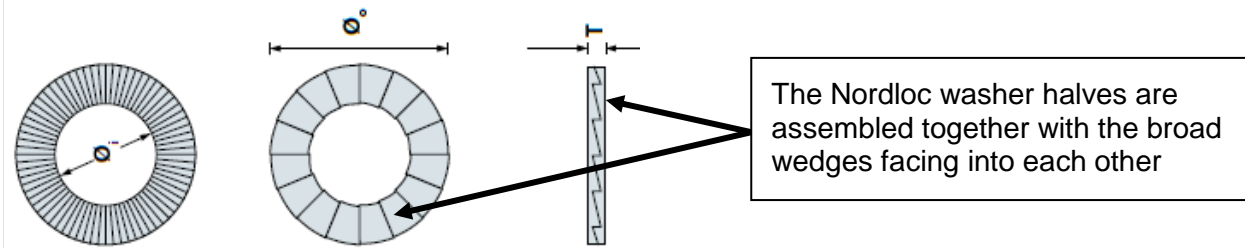

Figure 182 - Nordloc washer halves assembled together
- a. A Nordloc washer pair features two separate halves. Ensure the two halves are installed with the broad wedges of each half contacting each other (not the thin wedges) see Figure 182.